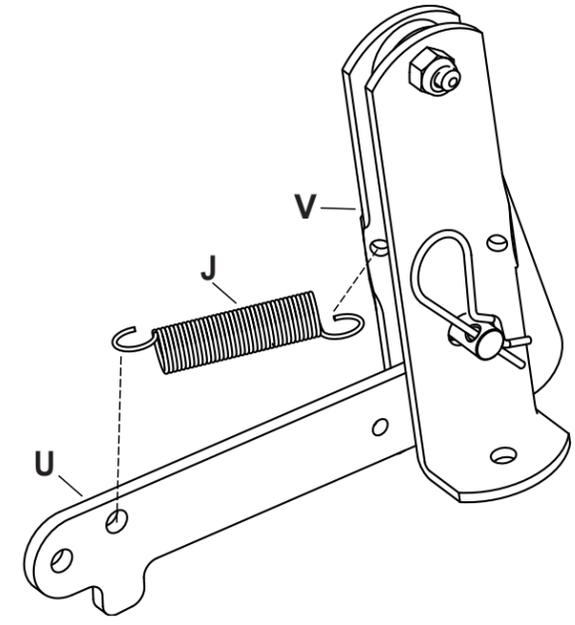

Figure 2
STEP 4 (SEE FIGURE 2): Install a end of the spring (J) into the latch mount bracket (V). Install the other end of spring (J) into the lock bracket (U). (See image for hole placement)